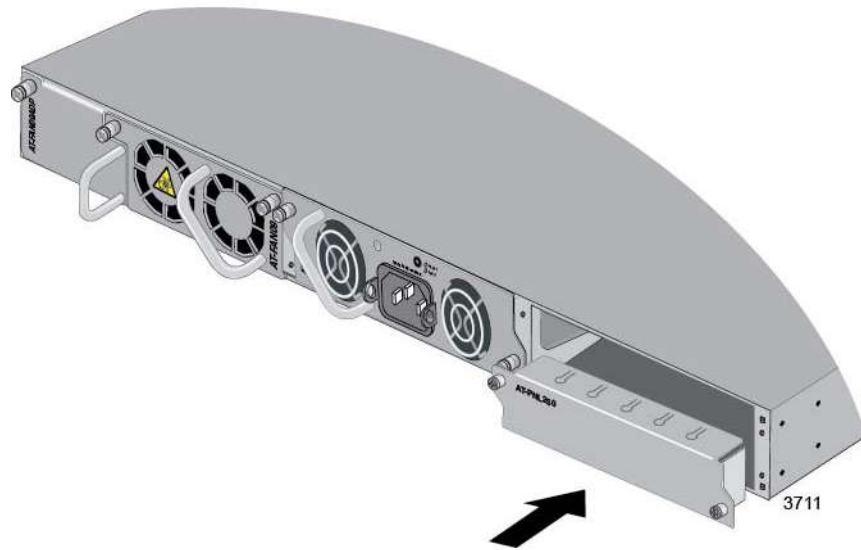

Figure 26. Installing a Blank Panel on a Power Supply Slot
1. Position the appropriate blank panel over the empty power supply slot. Use the AT-PNL800/1200 Blank Panel included in the accessory kit if the switch has only one AT-PWR800 or AT-PWR1200 Power Supply. Use the AT-PNL250 Blank Panel if the switch has one AT-PWR150, AT-PWR250, or AT-PWR250-80 Power Supply. Refer to Figure 26.